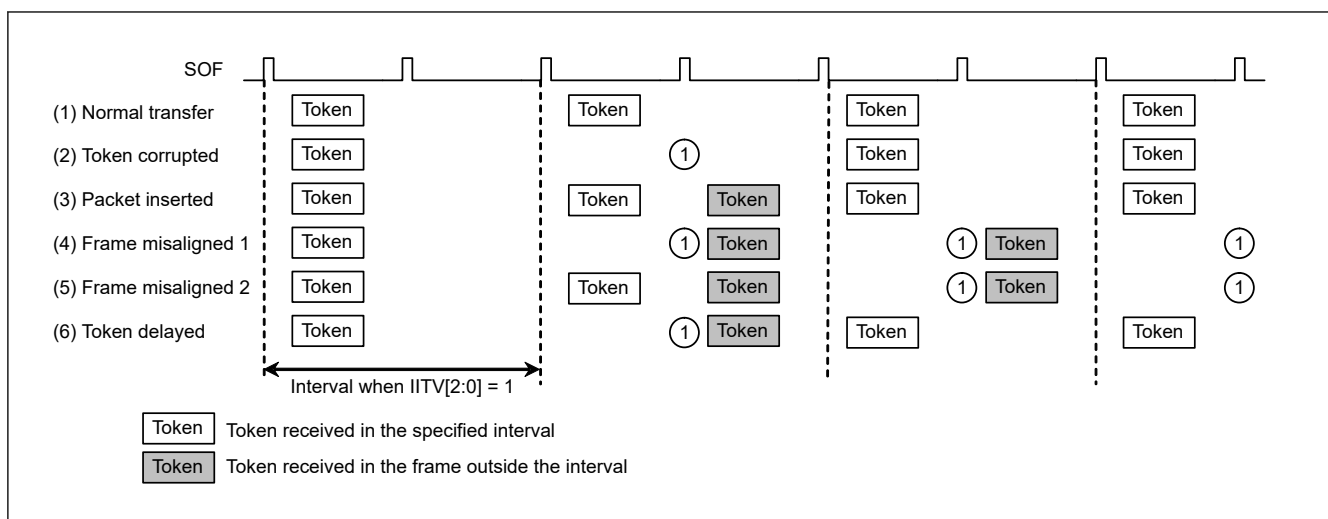

Figure 26.21 Example interval error occurrence when IITV[2:0] = 1
Figure 26.21 shows an example interval error occurrence. There are five types of interval errors, as shown in the figure. An interval error occurs at timing (A), and the buffer flush function is activated.